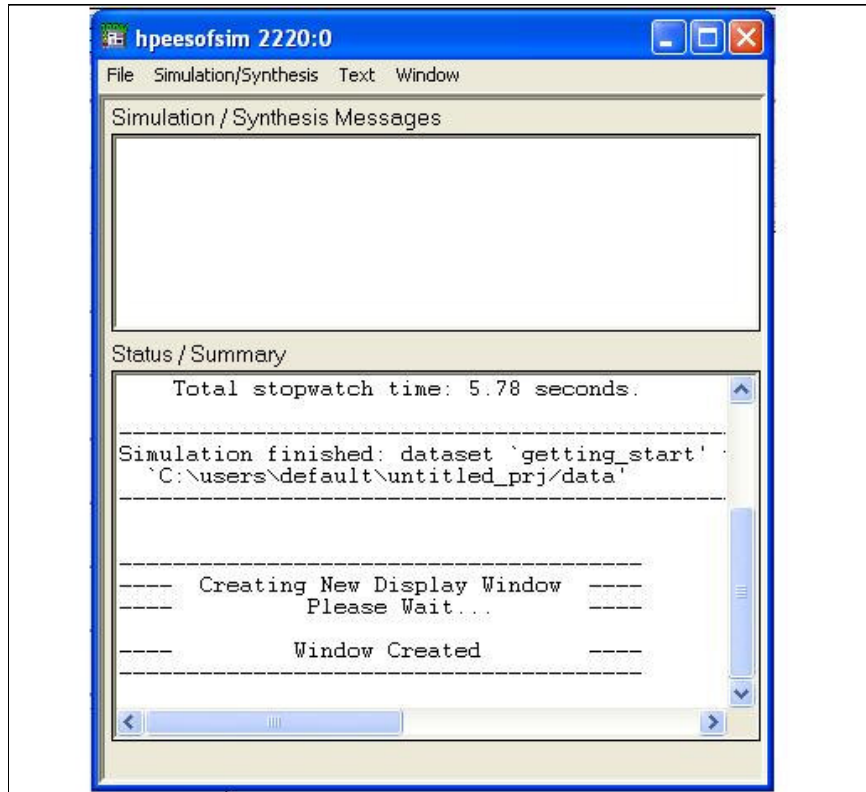

Figure 4 - Debug window.
5. Simulate the circuit by clicking on the yellow tooth wheel icon. A debug window will be opened, as shown in Figure 4. Pay attention that there is not any error in the Summary section.